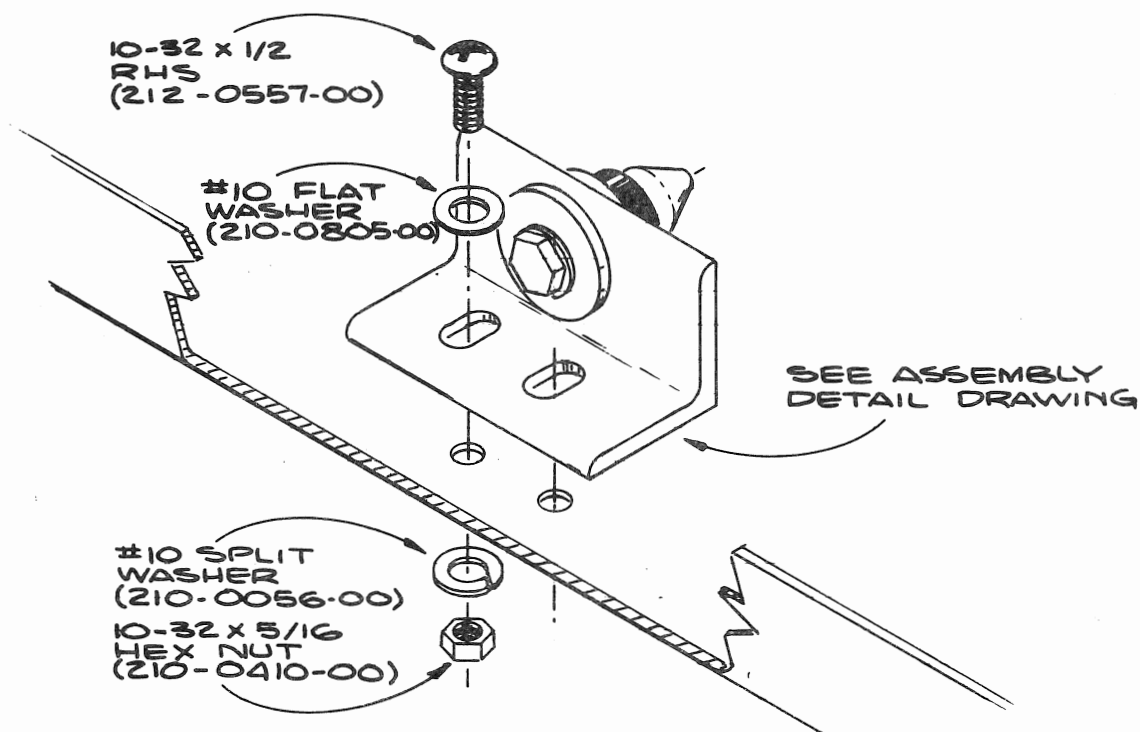

Fig. 6
- ( ) 8. Place the guide pin and angle bracket support assembly on the cradle so that it meshes with the double angle bracket on the instrument (see Fig. 6). If necessary, the double angle bracket may be adjusted up or down.
- ( ) 11. Mount the angle bracket support, using the 10-32 x 1/2 RHS screws, the #10 flat washers, the #10 split washers, and the 10-32 x 5/16 nuts from the kit (see Fig. 6).